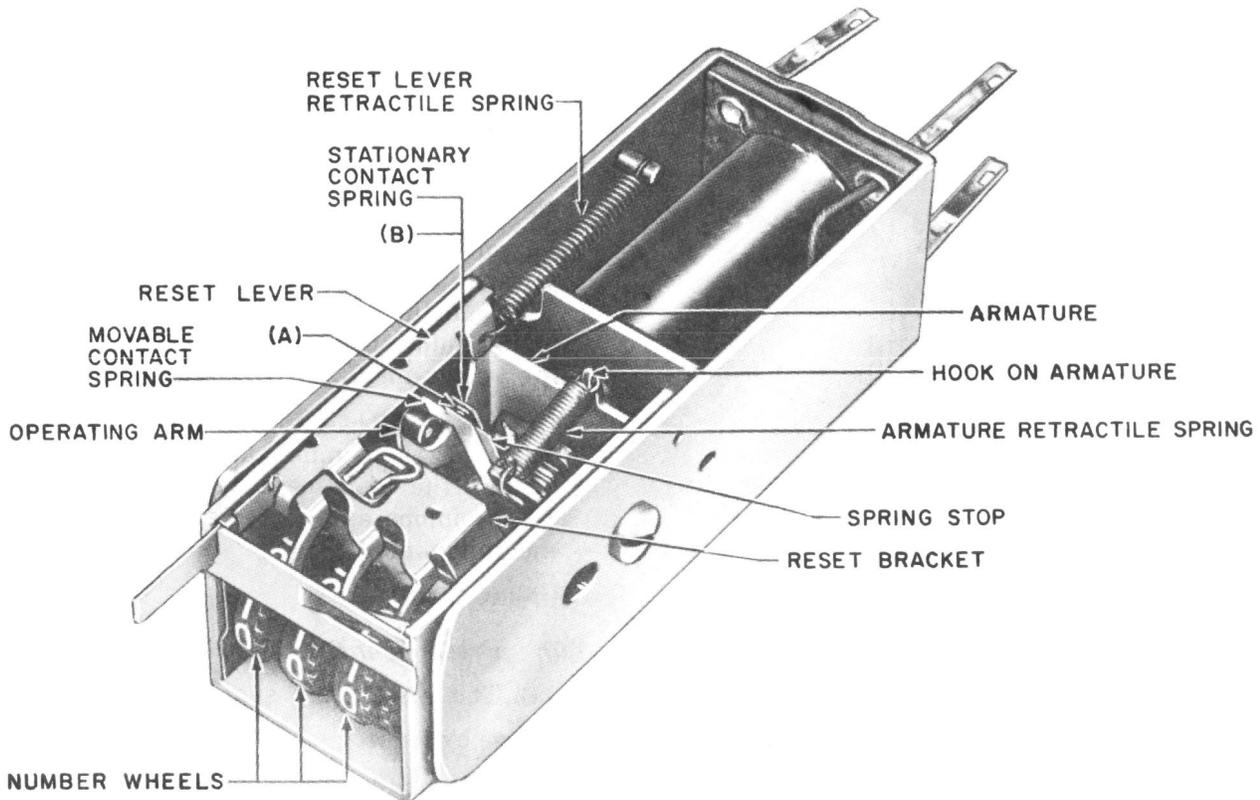

Fig. 5 - 15-Type Message Register Having Normally Open Contacts
**2.10 Contact Separation:** Fig. 5 (A) — With the armature in the unoperated position, the contact separation of the normally open contacts shall be
**\*2.12 Contact Spring Tension:** Fig. 5 (B) —